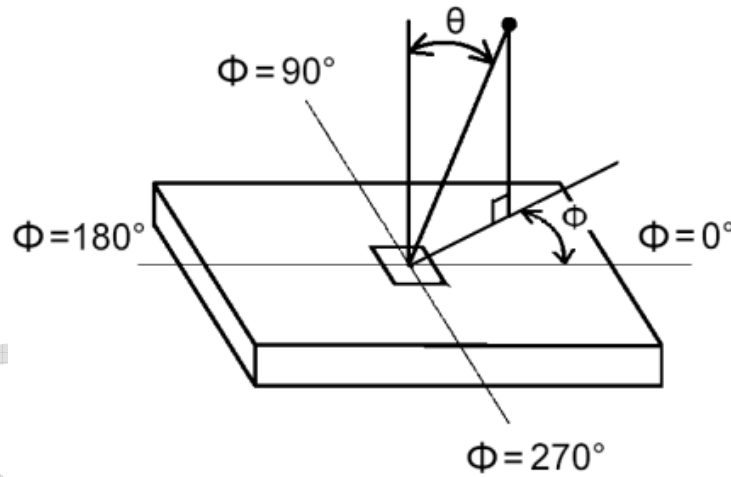

**FIG. 2 Luminance**
2. Surface luminance is luminance value at point 5 across the LCD surface 50cm from the surface with all pixels displaying white. From more information see FIG 2. LED current  $I_F$  = typical value (without driver board), LED input  $V_{DDB} = 24V$ ,  $I_{DDB}$  = Typical value (with driver board),  $L_{WH} = L_{on5}$  where  $L_{on5}$  is the luminance with all pixels displaying white at center 5 location.